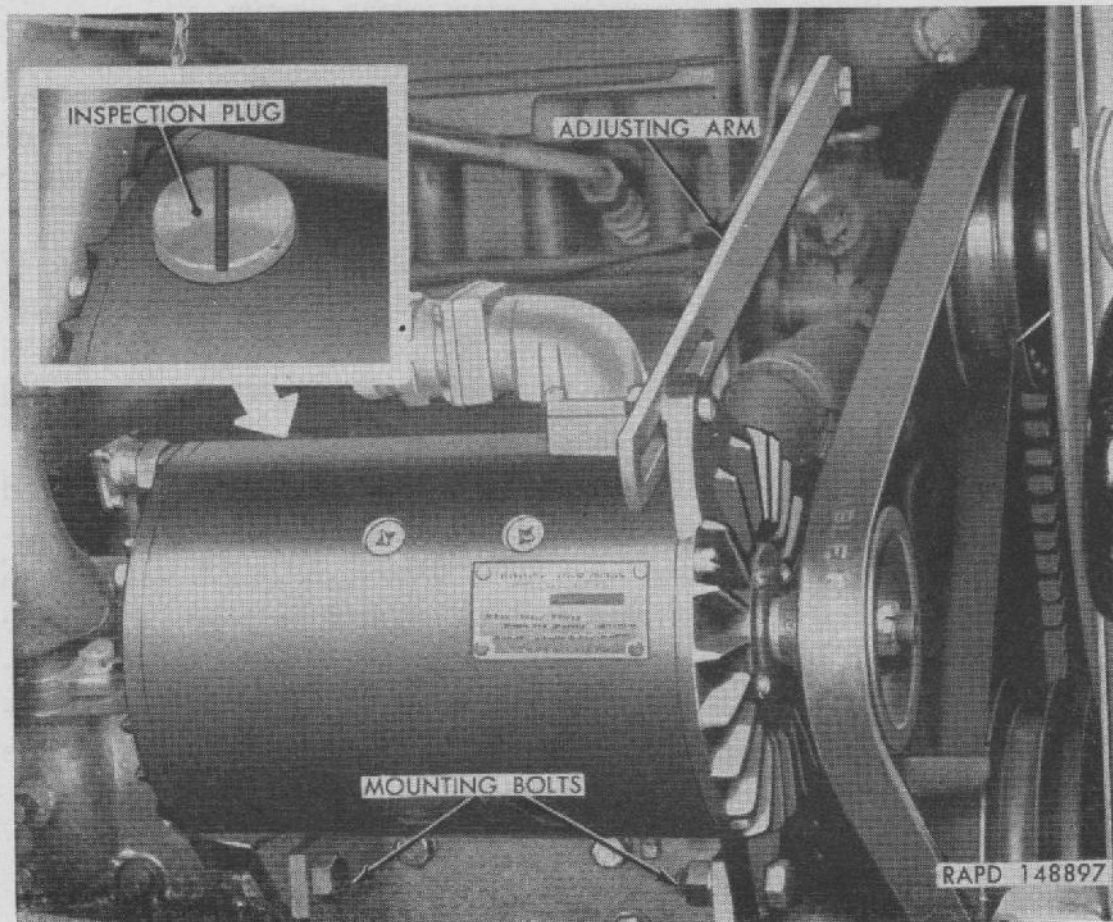
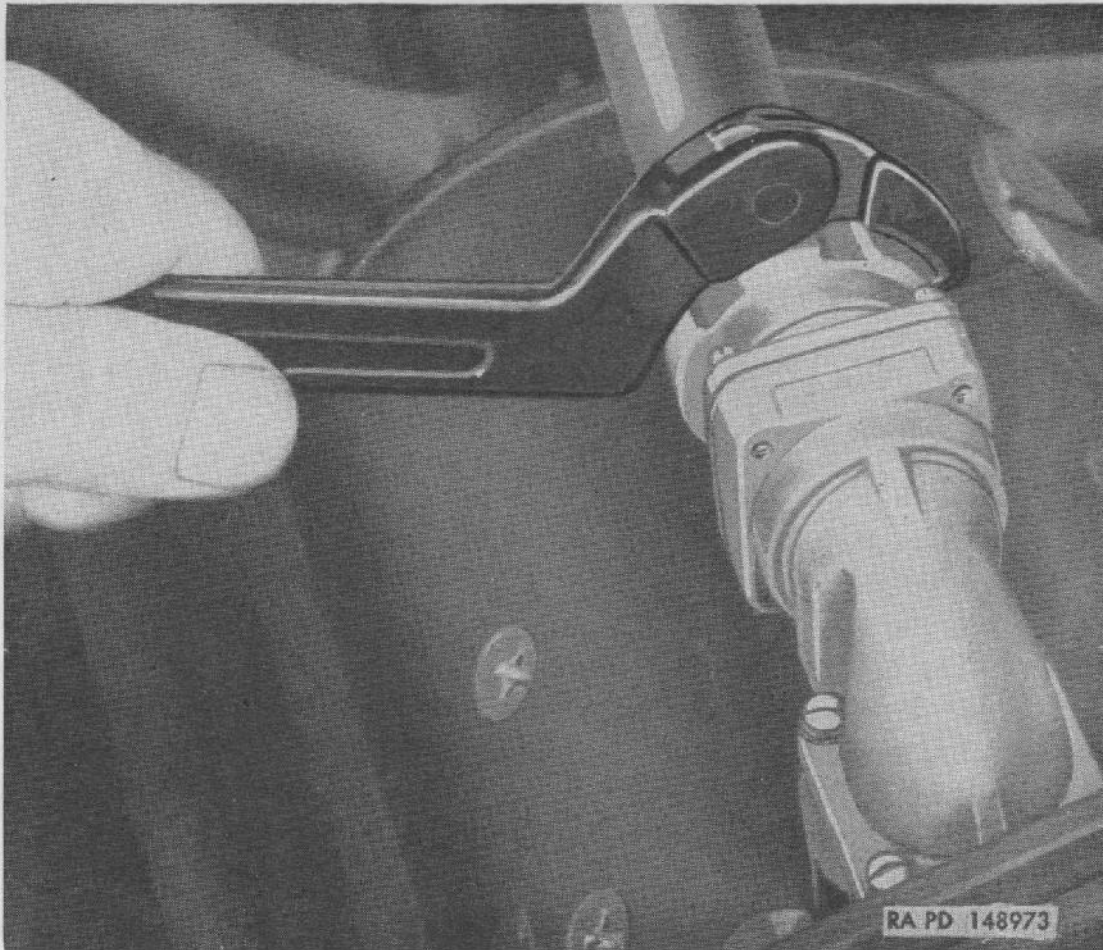

Figure 77. Generator installed.
Figure 78. Use of spanner wrench —41-W-3249-900.
b. GENERATOR. Generator is a four-brush, four-pole, shunt type unit. Generator is mounted on right-hand side of engine and is driven by a belt, in conjunction with the engine water pump and fan, from the engine crankshaft pulley (fig. 77). Inspection plug in generator field frame provides a means of inspecting commutator. Generator mounting permits positioning generator to provide proper drive belt tension. All external wiring connections are made through a three-prong plug and receptacle type connector.
a. GENERATOR INSPECTION. Remove inspection plug from generator field frame (fig. 77). With the aid of a flashlight, inspect commutator for dirty condition, roughness, high mica, or thrown solder. If any of these conditions are evident, replace generator (*b* and *c* below).
b. GENERATOR REMOVAL (fig. 77).
- (1) Using spanner wrench 41-W-3249-900, loosen nut on wiring harness connector at generator (fig. 78). Unscrew nut from connector and pull harness plug out of receptacle on generator.
- (2) Loosen bolt attaching generator adjusting arm to engine thermostat housing. Remove bolt, lock washer, and flat washer attaching adjusting arm to generator. Loosen two mounting bolts attaching generator to mounting bracket. Swing generator in and remove belt from generator pulley.
- (3) Remove two mounting bolts, nuts, and lock washers attaching generator to mounting bracket and remove generator.
- (4) Remove nut and washer securing generator pulley on armature shaft. Remove pulley from shaft, using a suitable puller. Remove key from shaft. Pulley, key, nut, and washer must be installed on replacement unit.
- c. GENERATOR INSTALLATION (fig. 77).
- (1) Install key in keyway in armature shaft, install pulley on shaft, and secure with flat washer and self-locking nut.
- (2) Position generator at mounting bracket and install two mounting bolts, lock washers, and nuts.
- (3) Place belt on generator pulley; then attach adjusting arm to generator with bolt, lock washer, and flat washer.
- (4) Polarize generator (*d* below). Insert wiring harness plug into receptacle on generator, making sure locating key and keyway on the two parts are aligned. Thread nut onto connector and tighten with spanner wrench 41-W-3249-900 (fig. 78).
- (5) Adjust generator drive belt tension (par. 129*a*); then tighten generator mounting bolts and adjusting arm bolts.